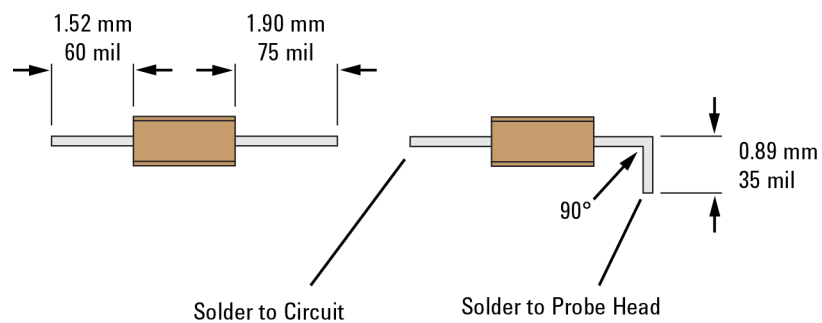
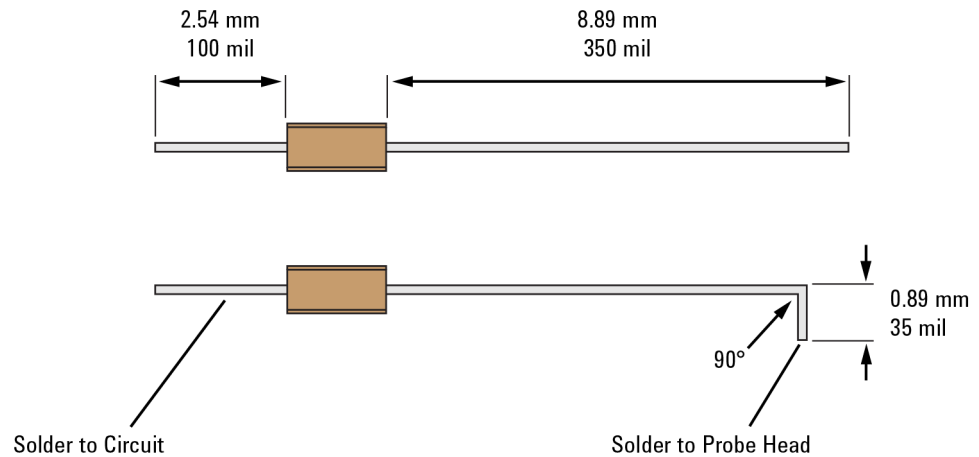

Figure 104 91Ω and 0Ω Combination Resistor Trim Dimensions
Figure 105 150Ω and 0Ω Combination Resistor Trim Dimensions
- 9 Using another pair of tweezers, bend the 1.90 mm or 8.89 mm lead 90° as shown in Figure 104 and Figure 105.